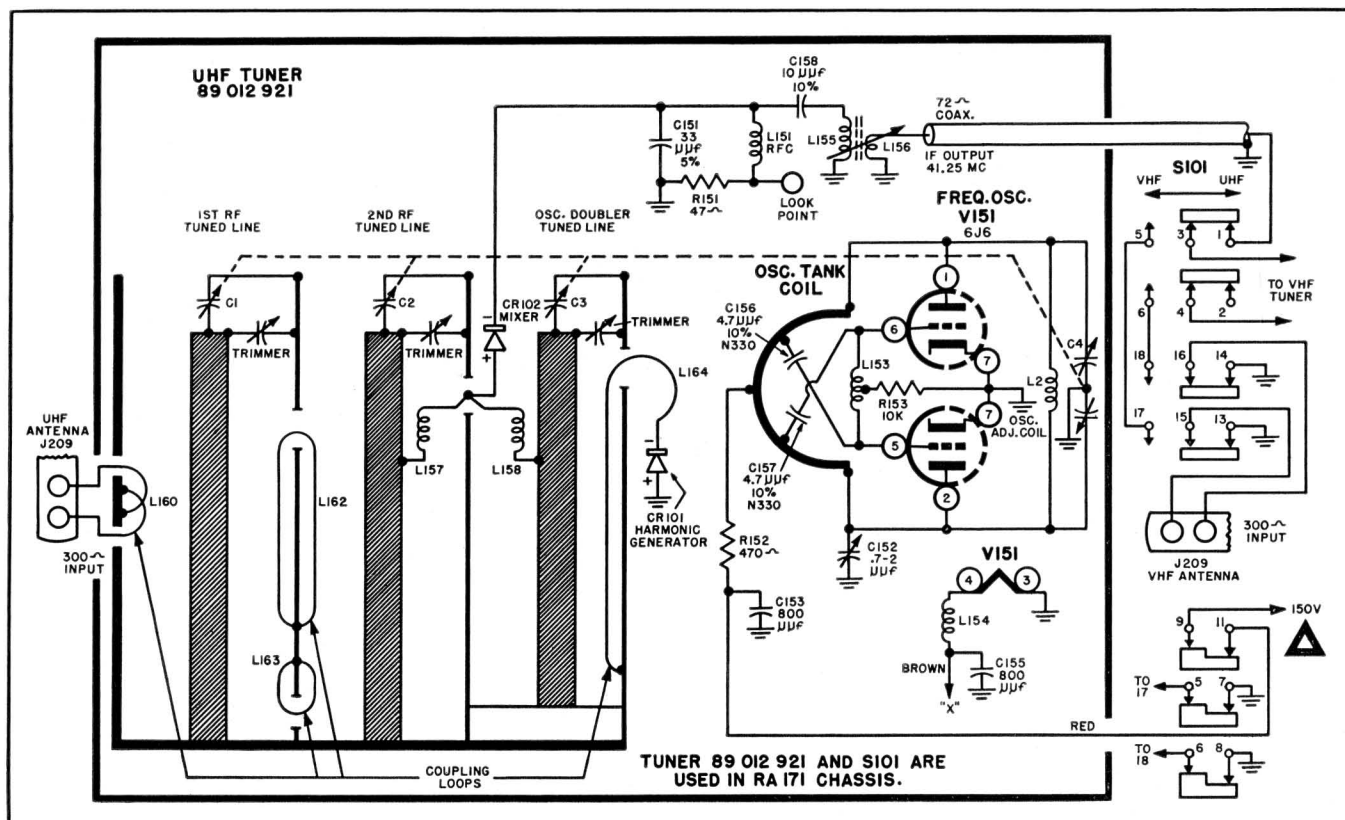

Figure 3. Schematic diagram of the UHF tuner.
**PRESELECTOR CIRCUITS.** — As previously mentioned the preselector consists of two inductively-coupled tuned circuits. Conventional tuned-circuit construction cannot be used in the UHF tuned circuits, consequently a special type high-Q low-loss circuit referred to as a capacitively-tuned, shorted coaxial line is used as shown in figure 3.
As shown in figure 3, two coupling loops are used between the preselector tuned circuits. The upper loop, L162, is effective primarily at the low-frequency end of the band, while the lower loop, L163, is effective primarily at the high-frequency end of the band.
In addition to the above, placing the Station Selector in the thirteenth position actuates a slide switch, S101 in figure 3, which applies B+ to the UHF tuner and connects the VHF tuner input to the UHF tuner output.